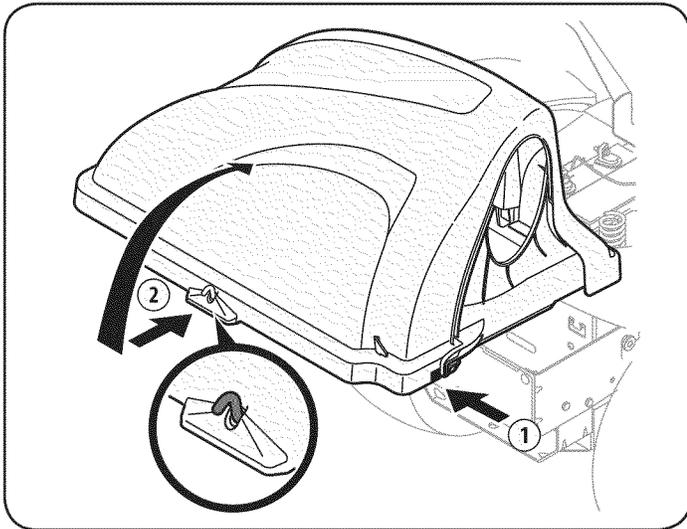

Figure 14
6. Open Hood by pushing in on the rear, right-side tab with your right hand, as seen in 1 of Figure 14, and lifting the cover with your left hand in the center rear of the bagger cover, 2.